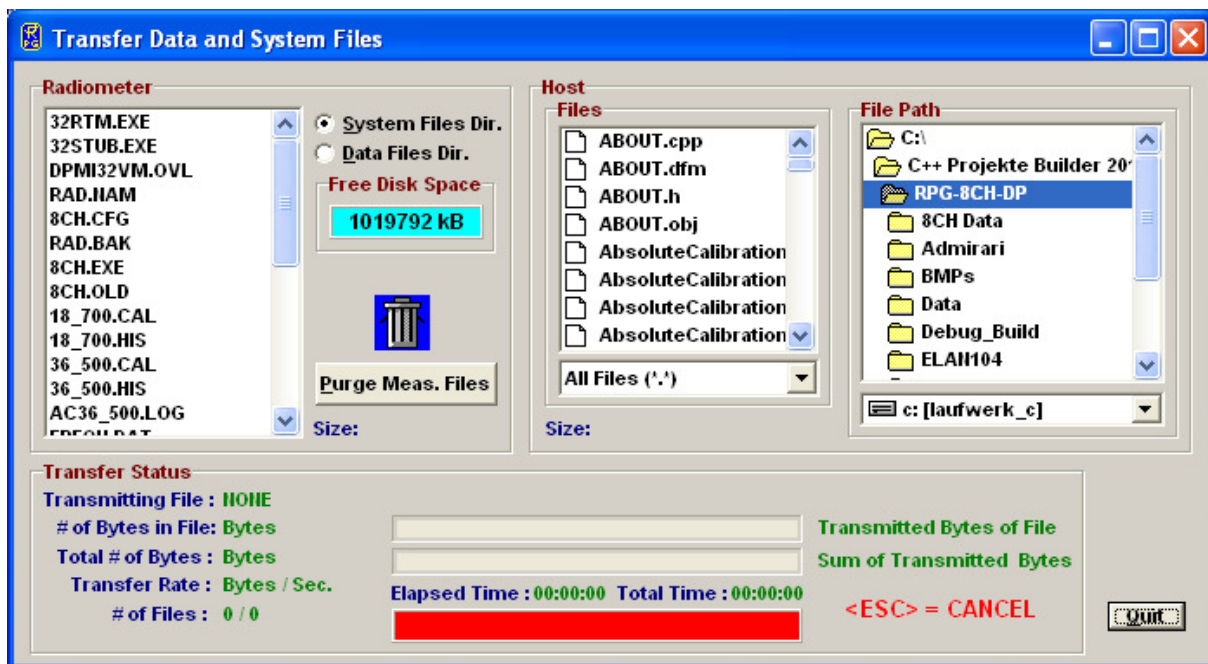

Fig.4.2.1: File Transfer Menu
b) Connect the host to the radiometer and enter the File Transfer Menu (, Fig.4.2.1). On the right side (Host) browse to the directory for saving the files (e.g. C:\MyPath\ SAVE) and on the left side (Radiometer) in the System Files Directory mark the 2CH.EXE file. Then drag and drop the 2CH.EXE file to the C:\MyPath\ SAVE directory to initiate the copy process.
- a) Copy the new version of 2CH.EXE (the radiometer PC software) on an arbitrary directory on your hard disk (e.g. MyPath\RPG-HATPRO\Radiometer PC). Then enter the file transfer menu in Fig.4.2.1 and browse to that directory. Mark the 2CH.EXE file in the Files-list and drag and drop it to the System Files Directory list. Because you are now going to overwrite a file in the System Files Directory (which is password protected for write access) a password entry window pops up. Please enter the following password in exactly the way as it is printed here: